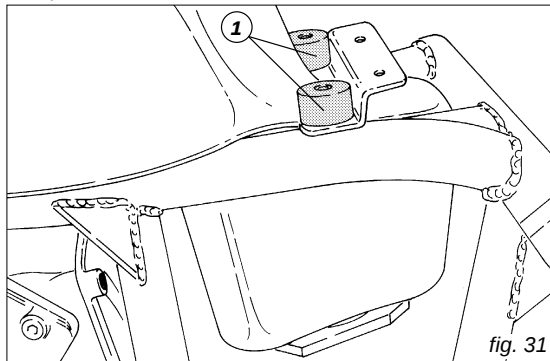
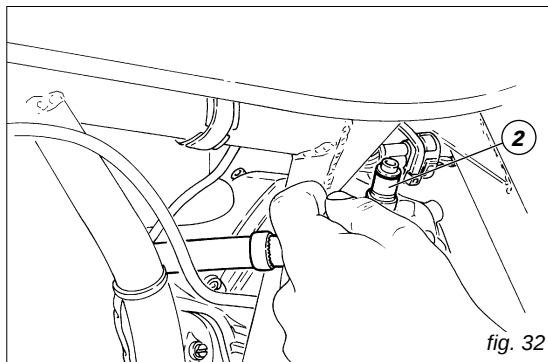
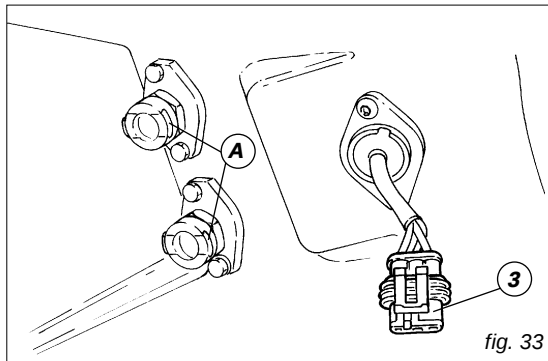
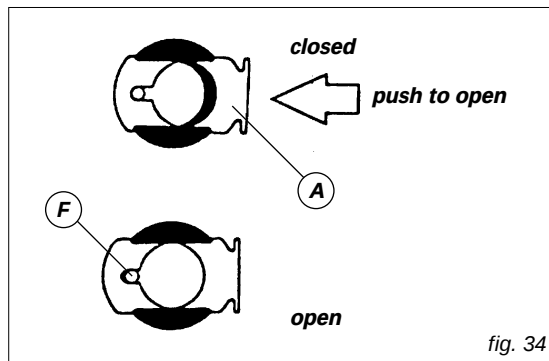

fig. 31
fig. 32
fig. 33
fig. 34
Unscrew and remove the rubber spacers (1, fig. 31). Disconnect the quick couplings of delivery and return lines (2, fig. 32), while pressing down on the tabs (A, fig.33) with your fingers. Remove any fuel spills. Disconnect the fuel sensor connector (3). Remove the tank with your hands (use no tools).
Place the tank in position. Install the rubber spacers (1, fig. 31) and tighten them. Fit the quick couplings for the delivery and return lines (2, fig. 32). Be sure to match the colours properly (connect white to white and black to black) and smear some lubricant on the O-rings.
If pressed accidentally, the pins (F, fig. 34) will cause the laminations of the quick couplings to close. Make sure the laminations are open. If not so, press the tabs (A, fig. 33) to open them.
Connect the fuel sensor (3, fig. 33).